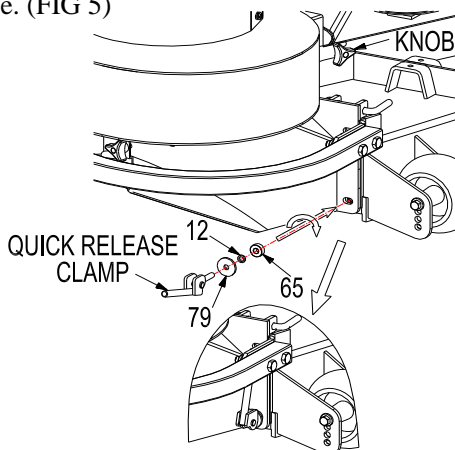

FIG 5
c) Place washers and bearing as shown onto quick release clamp; thread into threaded insert and lock into place. (FIG 5)